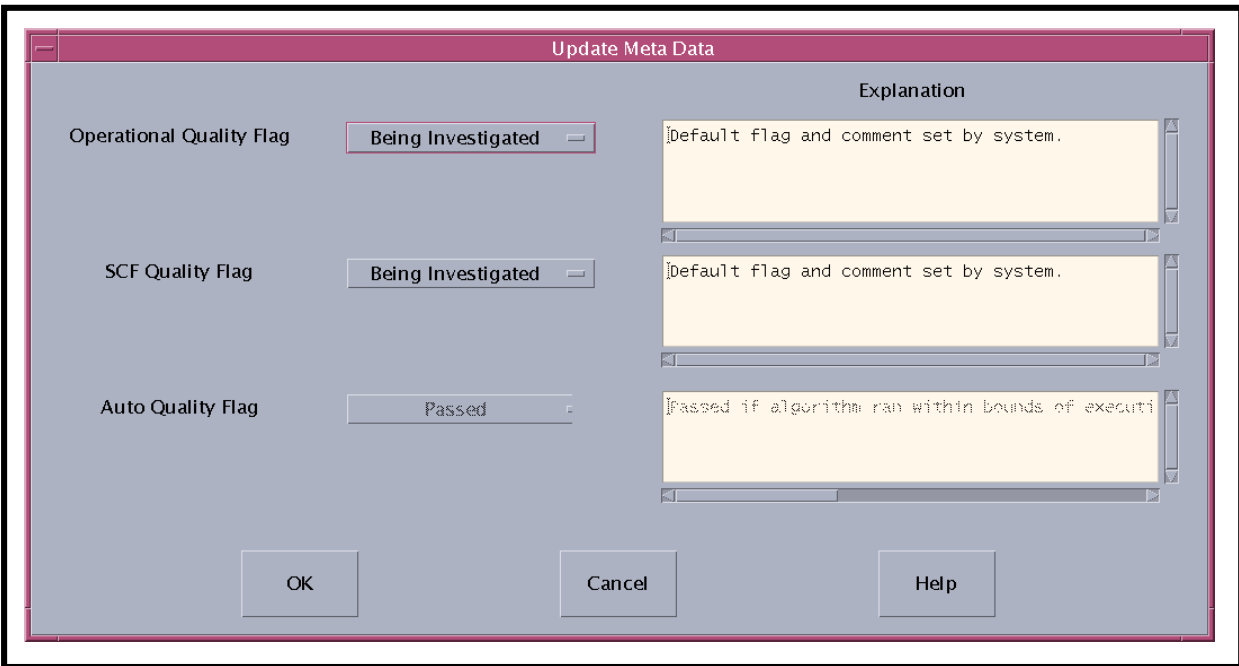

Figure 62. QA Monitor Update Meta Data Window
- The **Update Meta Data** window (Figure 62) is displayed.